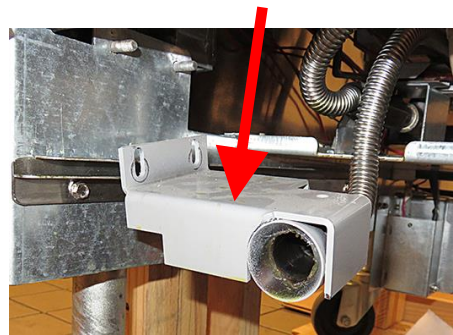

Figure 12
14. Lower the pick-up tube assembly down out of the way (see Figure 12).